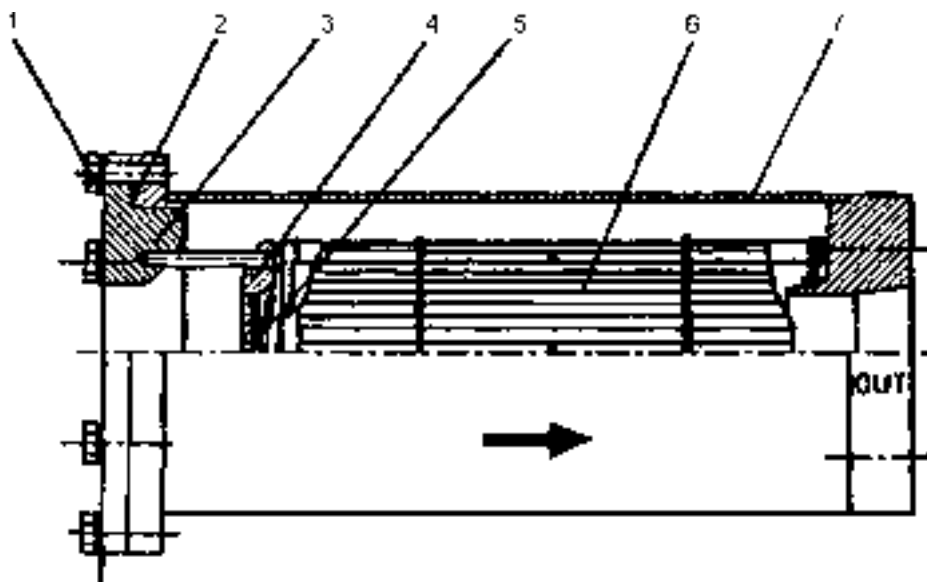

Fig. 5.48. Suction Strainer (cross section)
2. Remove bolts (5) of the filter saddle and remove the clamp (6) from the filter housing (7).
3. Remove bolts (3) from the tubing collars (2) at the filter housing. (7).
4. Press the filter housing down and remove the O-ring (8) from the tubing collars . (2). Keep the ring.
5. Remove bolts (1, Fig. 5.48) securing filter base (3) and inner/hold-down cover/retainer (4) and spring (5). Remove O-ring (2) and keep it for reassemble. Remove filter element (6). Clean the filter housing (7).
6. Replace the filter element (6, Fig. 5.48). Check and replace the O-ring (2) with a new one if damaged before its installation. Put the new filter element (6) into the filter housing (7). Install the O-ring (2), install the filter base (3), the inner/hold-down cover/retainer (4), spring (5) and secure it with bolts (1).